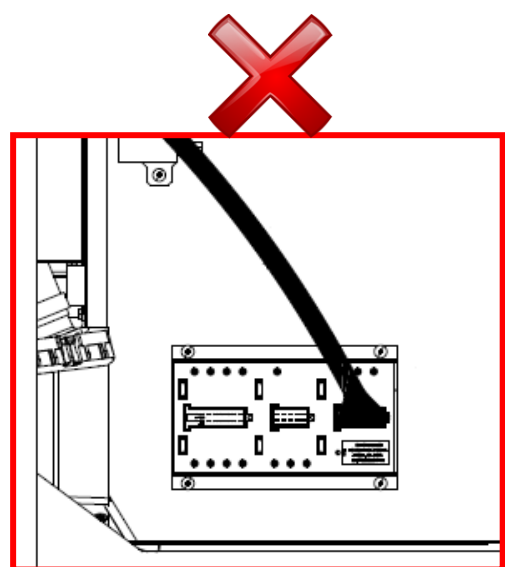

Figure 3
**NOTE:** *Route all wiring under the BCM as in Figure 2. Do NOT allow wiring to drape across the face or over the top of the BCM as in Figure 3.*